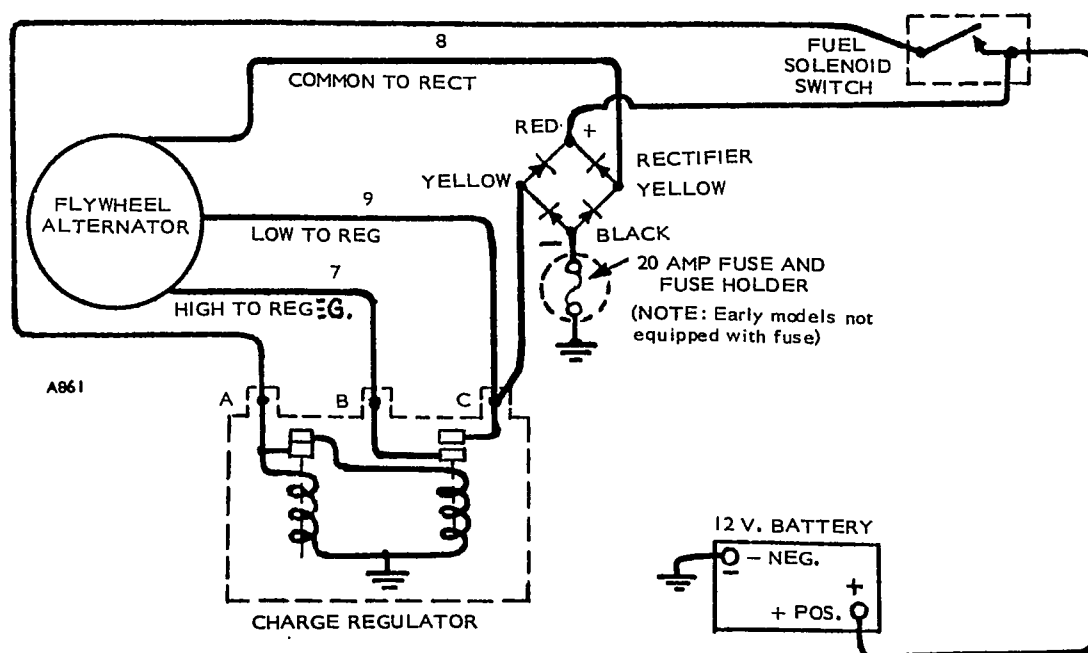

FIGURE 39. BATTERY CHARGING SCHEMATIC DIAGRAM
1. Connect a jumper between terminals B and C, Figure 39.